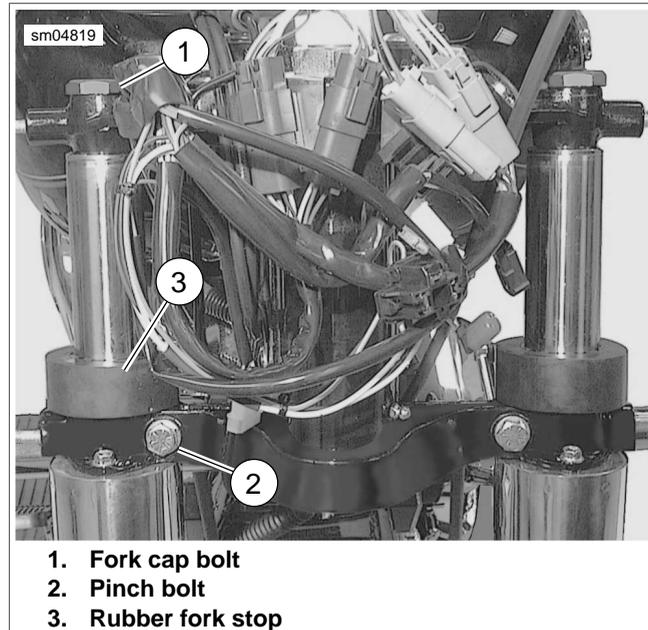

Figure 2-56. Remove Fork Cap Bolt (FLHR/C Shown)
7. Loosen pinch bolt (with lockwasher) in lower fork bracket, but do not remove. See Figure 2-56.